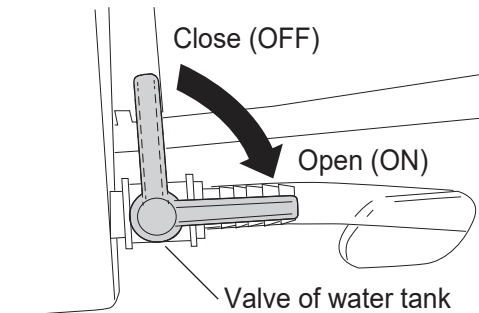

Fig.17
3. Open the valve of water tank and check that the priming water comes out from side of blade certainly. (Fig.17)